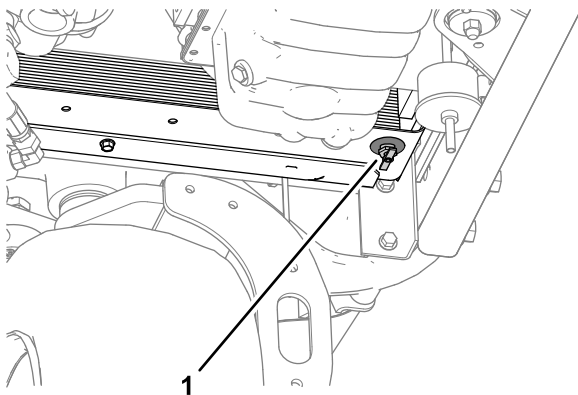

Figure 7
2. Align a drain pan of the specified capacity below the radiator drain valve and open the valve (Figure 7).
4. Close the drain valve (Figure 7).